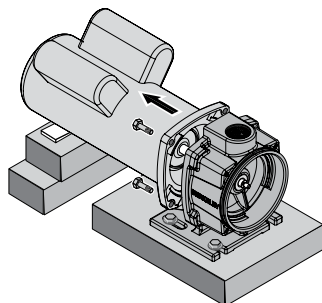

Figure 20
10. Block up the motor (so that the shaft will not take the weight of the motor when you loosen the capscrews holding the motor to the bracket), remove four capscrews (Ref. No. 2), and slide the motor and shaft back out of the bracket (see Figure 20).